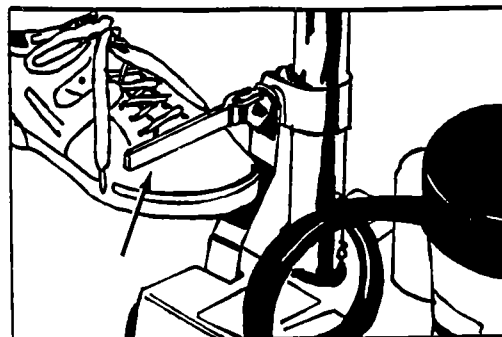

Figure 3
1. The locking lever is on the lower part of the handle tube. Use your foot to lift the lever. See figure 3.